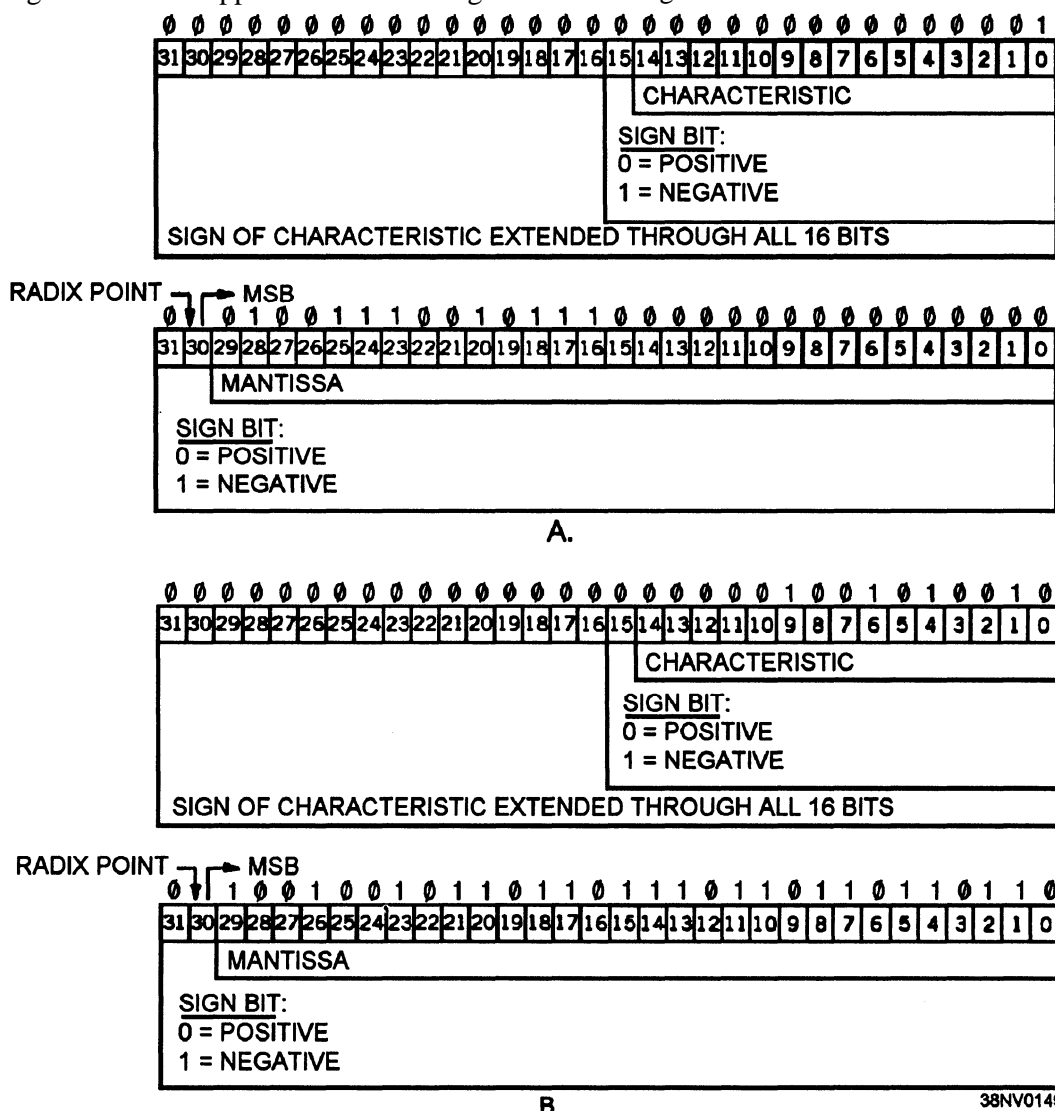

Figure 5-16.—Floating-point numbers: A. Single precision; B. Double-precision.
**FLOATING-POINT PRECISION.** —Floating-point formats include the use of single- and double-precision (refer to figure 5-16, frames A and B). The names single- and double-precision imply their usefulness: **precision**. Notice the double-precision floating-point format, two 32-bit words where the characteristic is small compared to the mantissa in which precision accuracy is required.